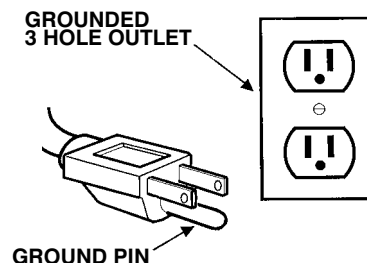

FIG. 21
- Then, plug charger's power supply cord into a grounded wall outlet (Figure 21).